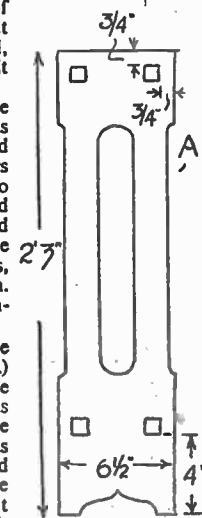

Fig. 1
Fig. 1 shows the pattern for the sides (A) and rails (B). Cut the sides and shape up as in the drawing. The four mortise slots shown are 1 in. long and 3/4 in. wide, both pairs are in true alignment. Cut the rails to the length given, plus 1 in. extra each end for the tenons. These are cut, of course, to fit tightly the mortises in the sides, and are positioned centrally. The tenons will project outside the sides by 3/4 in. and these projections should be chiselled to diamond shape, then, instead of looking somewhat unsightly, they will have a decorative effect.